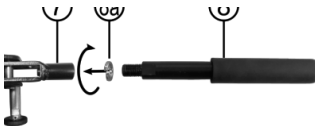
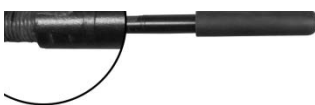

Figure 7: Mounting the tension lever
Figure 8
Fit the spring washer (8a) onto the thread of the tension lever (8). Screw the tension lever into the tension lever mount (7) of the quick closure, Figure 7. Screw the tension lever (8) into the tension lever mount (7) of the quick closure. Turn the thread fully into the holder and tighten the tension lever extension using a wrench (the tension lever has a spanner flat with a key width of 17, see Figure 8).